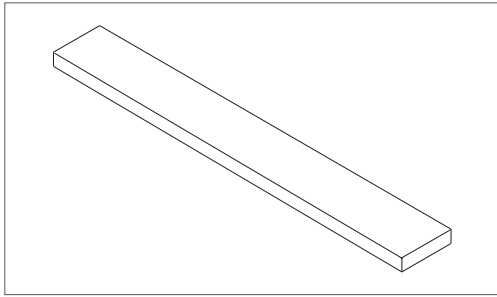

Figure 1
1. Select the slat that will be the bottom slat of the door (Figure 1).